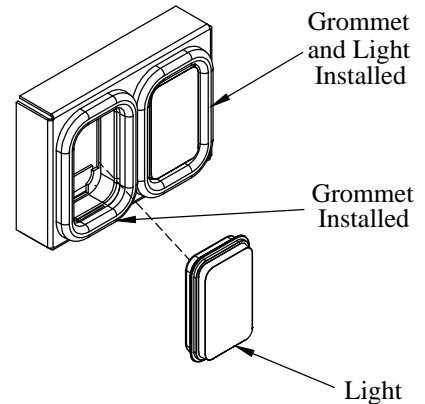

Figure 25: Light kit parts assembly.
17. **Press** the rubber grommets into the light holes (Figure 25).
22. **Push** lights into installed rubber grommets (Figure 25).